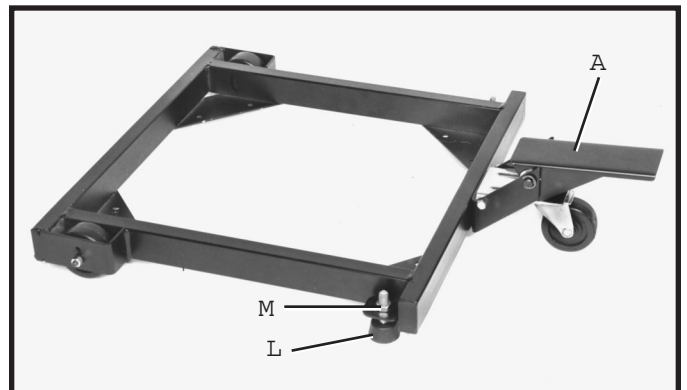

Fig. 7
4. With the foot lever (A) Fig. 7, in the raised position as shown, the mobile base should be level with the floor surface and the two rubber feet, one of which is shown at (L), should contact the floor surface. To adjust the rubber feet, tighten and loosen the hex nut, which is shown at (M) and the nut which is located directly above the rubber feet.
5. IMPORTANT: WHEN PLACING THE MACHINE ON THE MOBILE BASE, MAKE CERTAIN FOOT LEVER (A) FIG. 7, IS IN THE RAISED POSITION AS SHOWN TO AVOID MOVEMENT OF THE MOBILE BASE.